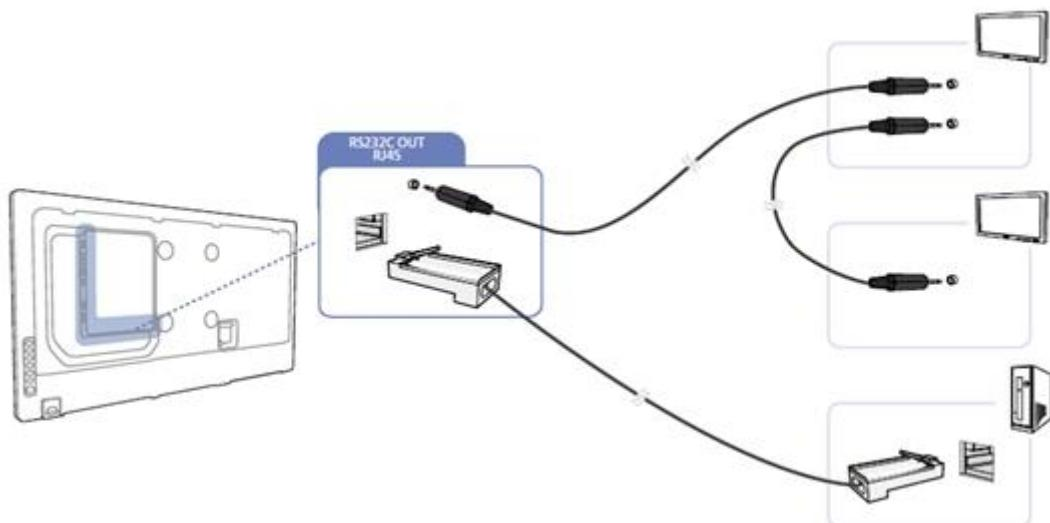

Figure1–3 PC,TV or Monitor connecting method(with RJ45 & RS232C)
- As of Figure 1–3, connect TV and Personal Computer(using Ethernet), connect the next TV of Display to be connected from RS232-Out (9Pin).